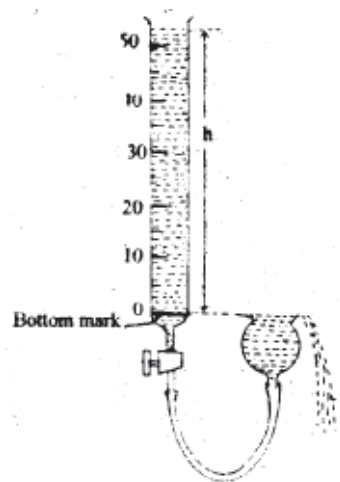

Fig. 9.1
In like manner, let water flow out through the narrow end of a burette to a thistle funnel and then to a sink. Then the rate of flow of water is proportional to level difference h between the thistle funnel and water level in the burette at any time (Fig. 9.1) and hence to volume of water in the burette above the bottom mark. Thus, the fractional rate of flow :
- i) After setting up the apparatus as described above, you already have water in the burette upto the bottom mark and in the thistle funnel. Close the stopper and fill water in the burette upto a little above its upper mark (Fig. 9.1).